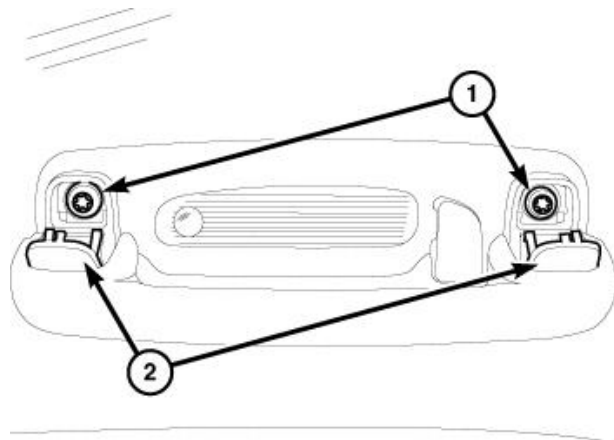

Figure 5 – Grab Handle Screw Covers
8. Remove the grab handle screw covers (2) (Figure 5).
9. Remove the screws (1) and remove the grab handle from the headliner (Figure 5).